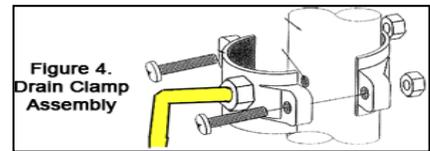

Figure 4.
4. Position the half of the drain saddle with the fitting (the fitting half) over the hole in the drain pipe, then position the other half (the back half) of the drain saddle on the opposite side of the drain. Place one of the bolts through the fitting half through the back half and loosely thread the nut onto it. Repeat on the other side. Position the fitting on the fitting half of the saddle over the drilled hole and seal, and evenly tighten both nuts, being careful not to over tighten. Once your system is set up, the drain line will connect to the drain saddle (Figure 4).